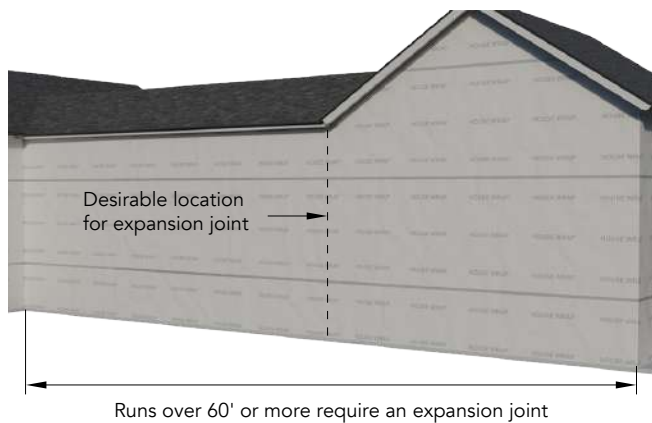

Figure 1a
- To achieve a uniform inside corner, install a 1"x1" weather-treated block along the height of the wall (Figure 1a/b).
- Locate Trim Receiver #6915 near the center of the wall, square, and fasten (Figure 1a/b).